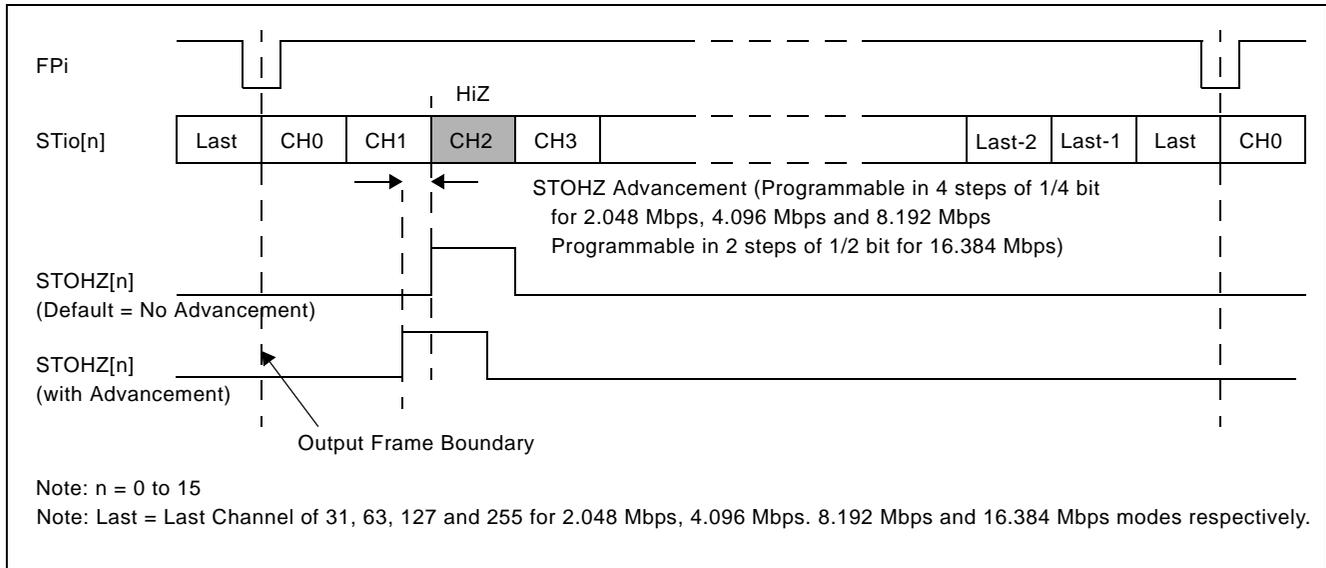

Figure 18 - Channel Switching External High Impedance Control Timing
There are 16 external high impedance control signals, STOHZ0 - 15, that are used to control the external drivers for per-channel high impedance operations. Only the first sixteen ST-BUS/GCI-Bus (STio0 - 15) outputs are provided with corresponding STOHZ signals. The STOHZ outputs deliver the appropriate number of control timeslot channels based on the output stream data rate. Each control timeslot lasts for one channel time. When the ODE pin is high and the OSB (bit 2) of the Control Register (CR) is also high, STOHZ0 - 15 are enabled. When the ODE pin, OSB (bit 2) of the Control Register (CR) or the RESET pin is low, STOHZ0 - 15 are driven high, together with all the ST-BUS/GCI-Bus outputs being tristated. Under normal operation, the corresponding STOHZ outputs of any unused ST-BUS/GCI-Bus channel (high impedance) are driven high. Refer to Figure 18 on page 32 for a diagrammatical explanation.